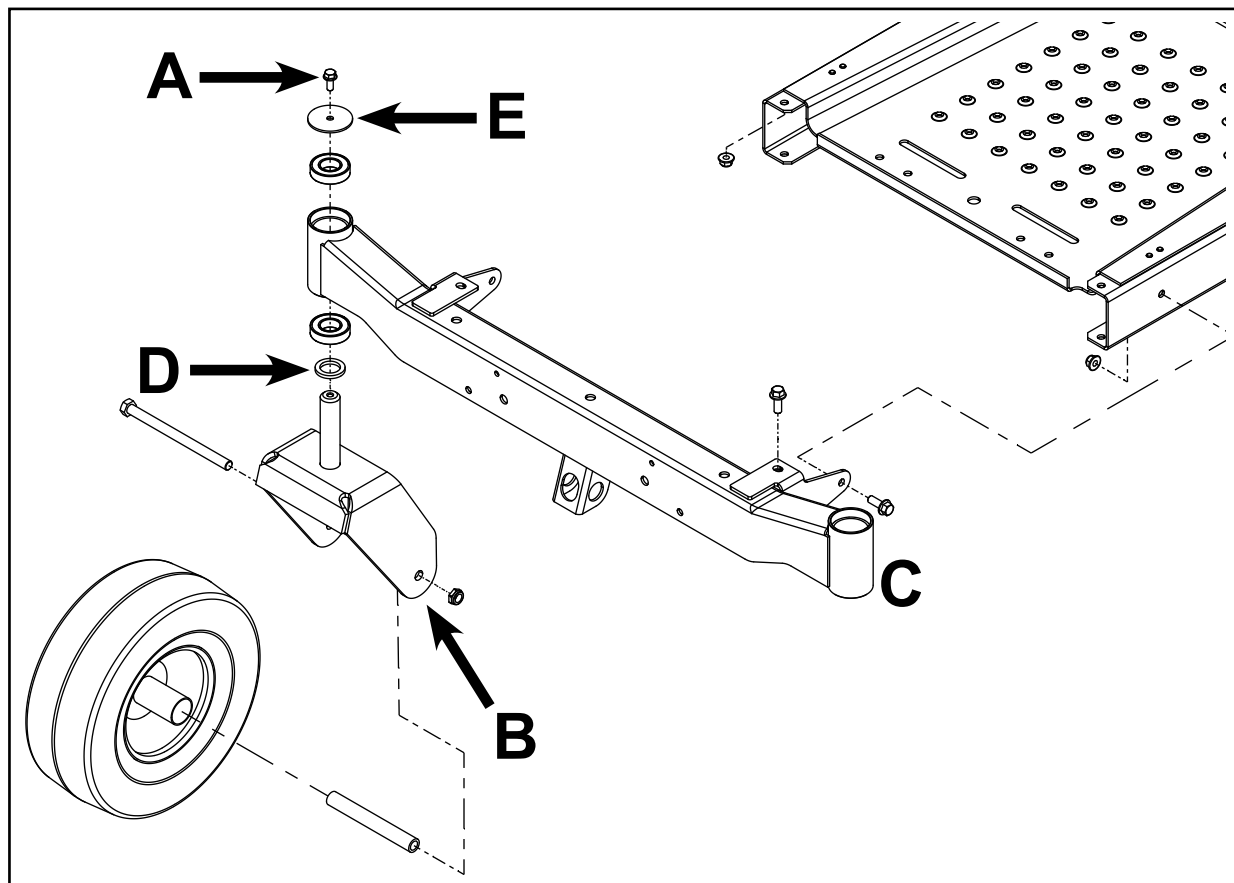

Fig. 007
2. Install thrust washer (D) onto the caster fork shaft.
4. Install washer (E).
5. Install fastener (A) and torque to specification - 17 ft-lbs. (23 Nm).
6. Safely lower unit and verify proper function. (Fig. 007)